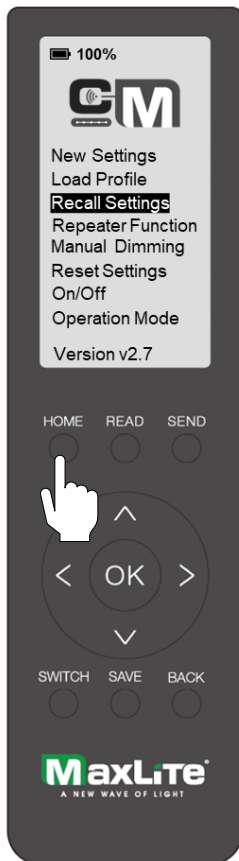

Fig 3A
1. Once the **HOME** screen is displayed, navigate to **RECALL SETTINGS** and highlight it, then press **OK** to enter **RECALL SETTINGS** (Fig 3A).